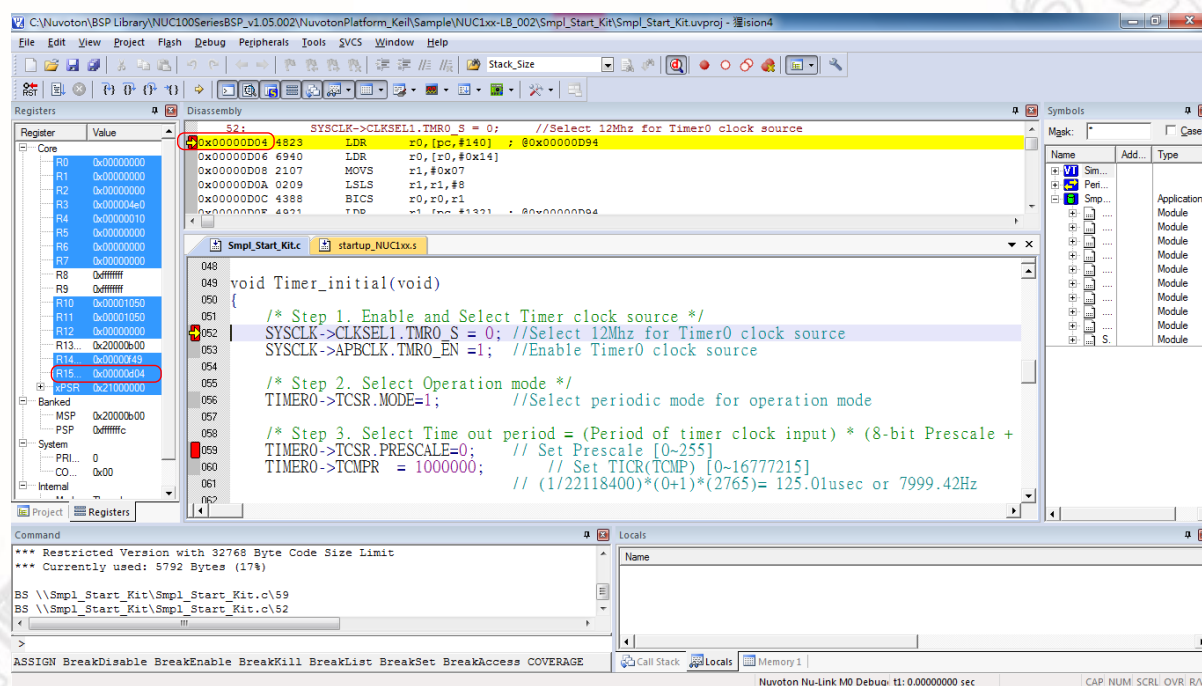

Figure 3-1 Setting Breakpoints in Keil RVMDK Debug Mode
In Debug mode, the user can add breakpoints in the code for debugging. During the real-time simulation of the Nu-Link Adapter, the chip simulation will be stopped at a specific breakpoint. Figure 3-1 shows the breakpoint settings in Keil RVMDK Debug mode. The red labels on lines 052 and 059 indicate the breakpoints inserted; the yellow arrow refers to the code to be executed next and shows the register value of Program Counter (PC) (i.e. “R15(PC)=0x00000D04” in the **Registers** pane in Figure 3-1).